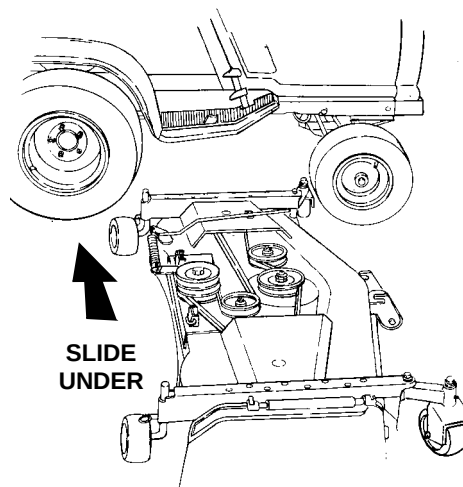

Figure 34
3. Position the deck on the right side of the tractor with the front of the deck facing toward the front of the tractor (Refer to Figure 34).